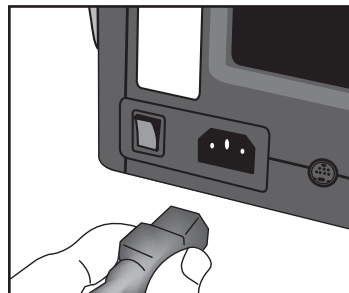

Figure 1
1. Plug Power Cord into the rear of the machine, then plug cord into a grounded outlet. (See Figure 1)
2. Switch machine power ON (I)